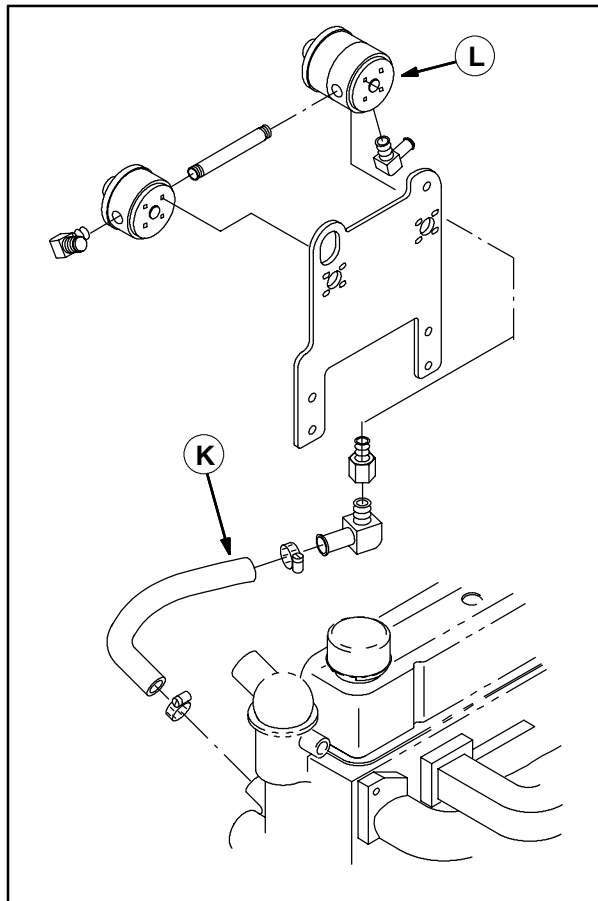

FIG. 19
42. Disconnect the end of the hose (K) connected to the engine water pump and the LPG vaporizer (L) from the LPG vaporizer. Refer to Fig. 19.